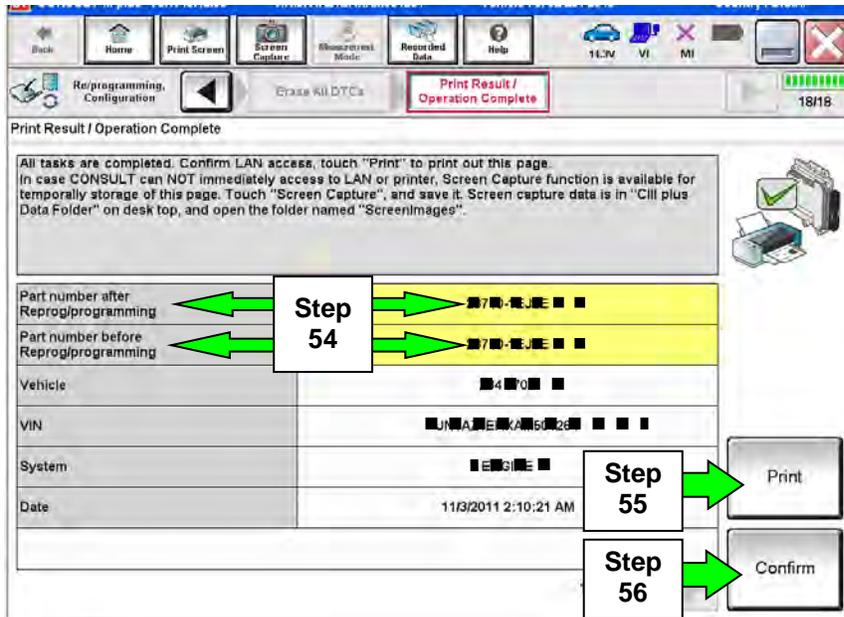

Figure 33
55. Print a copy of this screen (Figure 33) and attach it to the repair order.